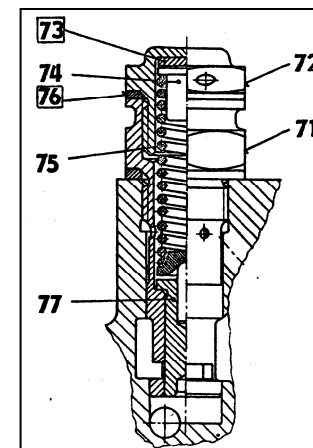

FIGURE 12-27
- (1) Sejměte vázací drát z redukčního ventilu. Seřídte tlak seřizovacím prvkem 73 – podložkou uvnitř redukčního ventilu – nebo prvkem 76 – těsnící podložkou pod víčkem 72.
C. Pressure adjustment using element 73 and 76 of the relief valve (figure 12-27)
- (2) Hold the relief valve body [71] (figure 12-27) using a suitable wrench to prevent the valve body from turning, then use a suitable wrench to remove the relief valve body cover [72] (figure 12-27).
CAUTION: DO NOT TIGHTEN THE RELIEF VALVE BODY TOO MUCH. OVERTIGHTENING THE RELIEF VALVE BODY CAN CAUSE SLEEVE VALVE STICKING [77] (FIGURE 12-27). HOWEVER THE RELIEF VALVE BODY MUST NOT BE LOOSEN.
- (1) Remove lock wire from cover [72] (figure 12-27). Hold the relief valve body [71] using a suitable wrench and tighten the cover.
- (2) Secure the relief valve with lock wire, use standard procedure.
- (3) If defective sealing is the cause, remove lock wire, hold the relief valve body [71] to fix it and remove the cover [72].
- (4) Defective sealing washer – element [76] – remove and measure total thickness with accuracy 0,1 mm (.004 inch). Prepare new sealing with the same thickness. Use maximum two washers.
- (5) Put the new sealing washers onto the cover [72]. Verify, that the pin [74] is at the spring [75] and original washers [73] are installed.
- (6) Podržte klíčem těleso redukčního ventilu [71], aby se nedotahovalo, zašroubujte do něj víčko [72] s podložkami [76] a dotáhněte klíčem.
- (7) Redukční ventil pojistěte vázacím drátem.